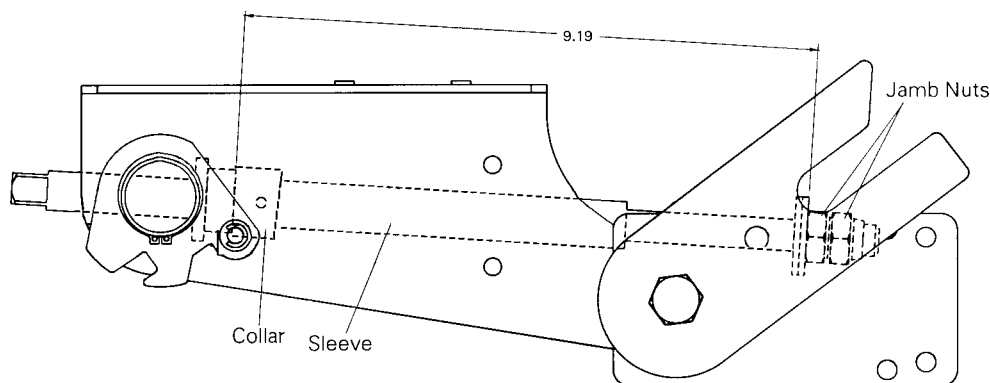

Figure 7-15. Draw-out mechanism adjustment.
1. With the trunnion against the jamb nut washers, check that the distance between the edge of the washers and the collar is 9.19 inch, as illustrated in Figure 7-15. To adjust this dimension, loosen and rotate the jamb nuts appropriately, then retighten the nuts.